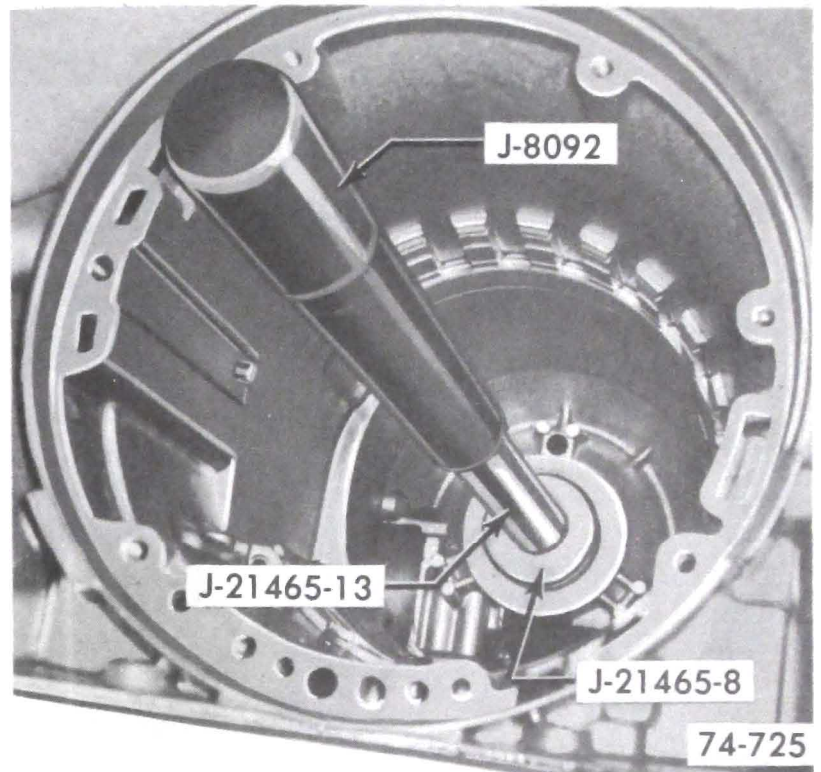

Figure 76-232
a. Thread Extension Handle J-21465-13 into Bushing Remover J-21465-8. Using Drive Handle J-8092 remove bushing. See Figure 76-232.